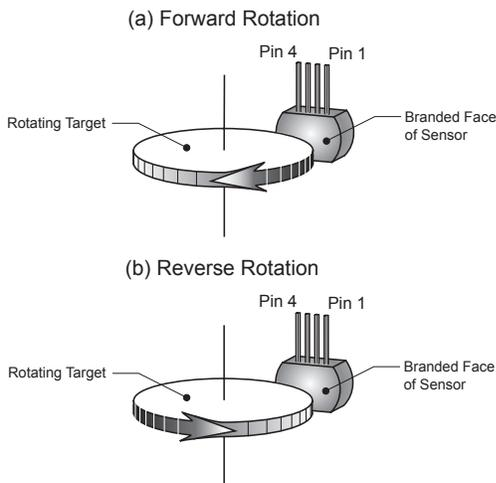

Figure 1. Target rotation
**Forward Rotation** (See panel *a* in figure 1) When the target is rotating such that a tooth near the sensor passes from pin 4 to pin 1, this is referred to as *forward* rotation. This is diagrammed below. Forward rotation is indicated on the output pin by a 45  $\mu$ s pulse width.
**Reverse Rotation** (See panel *b* in figure 1) When the target is rotating such that target teeth pass from pin 1 to pin 4, it is